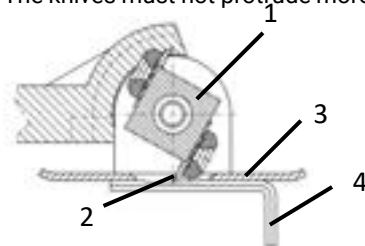

Fig. 11: Knife adjustment
- > Replace the knife (2 – Fig.11) if necessary.
- > Turn the cylinder (1 – Fig.11) so that the knife protrudes at maximum through the guide plate (3 – Fig.11).
- > Place the Allen wrench (4 – Fig.11) on the guide plate so that the notch with the desired cutting depth is under the knife.